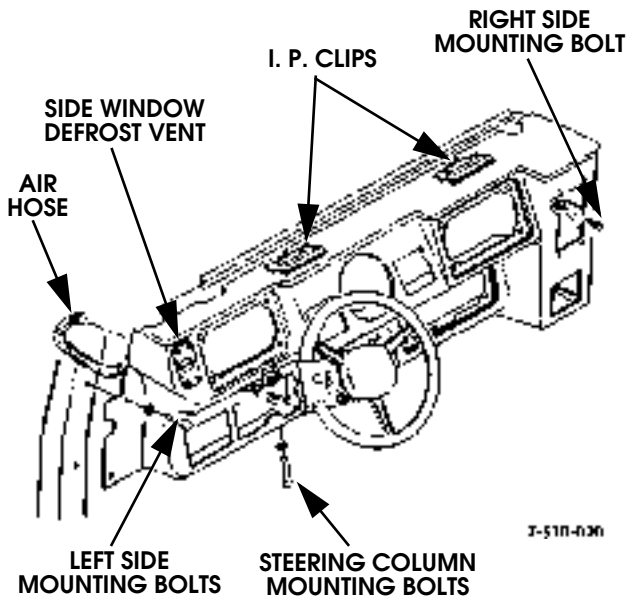

Figure 10-15: Instrument Panel Replacement
2. Tug gently on crashpad toward steering wheel to free crashpad clips from I. P. clips (Figures 10-15 and 10-16).
2. Position crashpad on edge of I. P. closest to steering wheel and push crashpad onto I. P. clips (Figures 10-15 and 10-16).